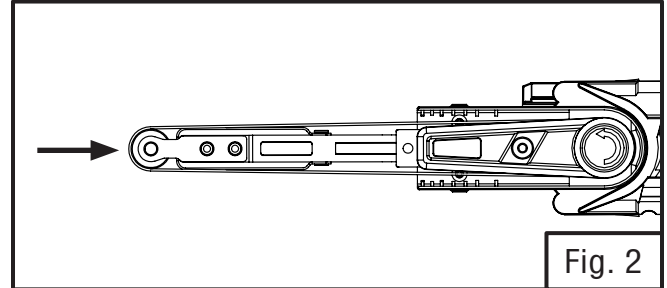

Fig. 2
## INSTALLING THE SANDING BELT (FIG. 2 - 4)
1. Press the tip of the sander against a hard object to retract the front roller (Fig. 2).